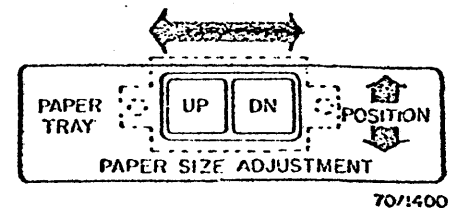

Fig. 3-36. Paper Tray Position Switch
1. Adjust the paper tray position switch to obtain equal gap between the switch buttons and the bezel (Fig. 3-36).